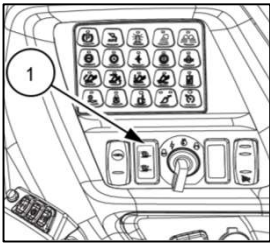

Fig. 1
1. Evaluate the consistency of the material to be handled and the ground conditions in order to correctly set the traction (rim pull) using the dedicated switch located near the ignition key (fig. 1 ref. 1). By operating this momentary rocker switch, traction capacity can be increased by pressing the upper section n times, in successive +10% steps, or reduced by pressing the lower section, decreasing it by ~10% with each press.